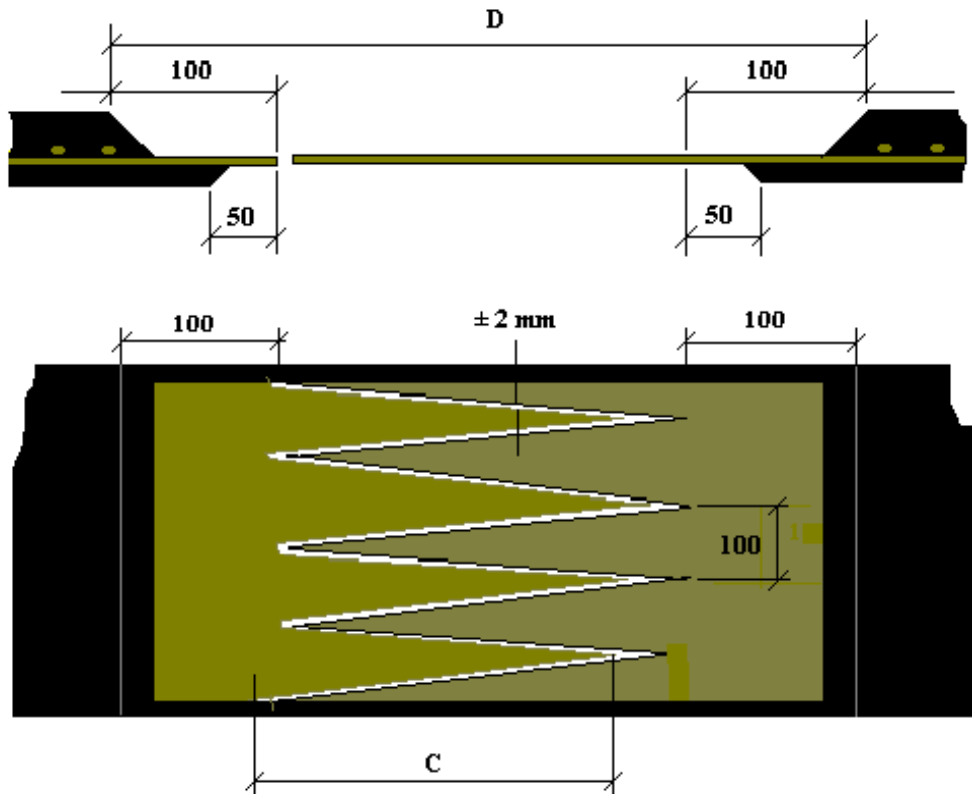

Figure 1: Schematic drawing of the building of the splice. Dimensions in mm.
In figure 1 you will find a schematic drawing of the building of the splice, the dimensions corresponding to the letters are found in table 1.
- Draw the fingers on the belt end, according table 1 and fig. 1, starting on the centreline of the belt. Note: Make sure that the outside fingers trail in the direction of belt travel.
- Align the two belt ends with approx. 2 mm distance between the fingers (see figure 1).